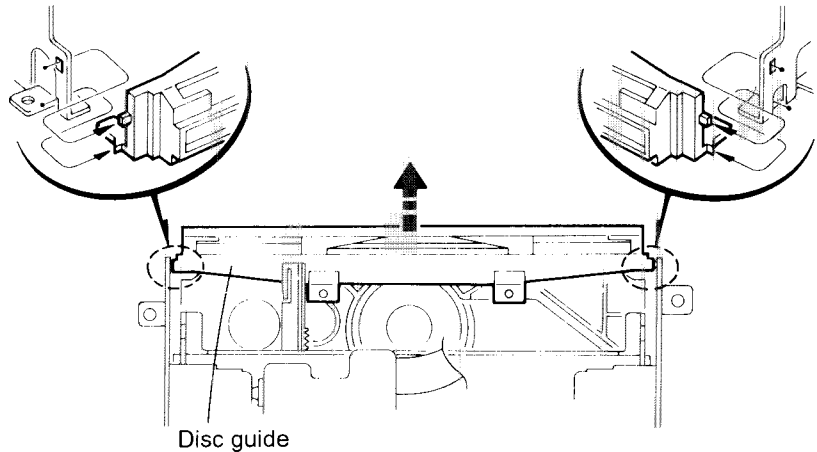

Fig. 4-19
(See Fig. 4-19).
7. Mount the disc guide on the frame (See Fig. 4-19).